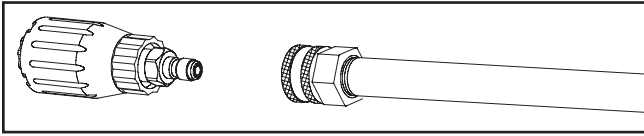

Figure 27- Attaching Turbo Nozzle to Quick Connect Nozzle Extension
3. Pull back on collar, insert turbo nozzle and release collar (Figure 27). Tug on turbo nozzle to make sure it is securely in place.